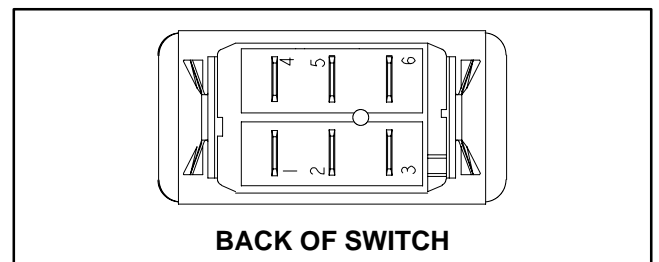

Figure 22
5. The switch terminals are marked as shown in Figure 22. The circuit logic of the lift switches is shown in the chart below. With the use of a multimeter (ohms setting), the switch functions may be tested to determine whether continuity exists between the various terminals for each position. Verify continuity between switch terminals. Replace switch if testing identifies a faulty switch.